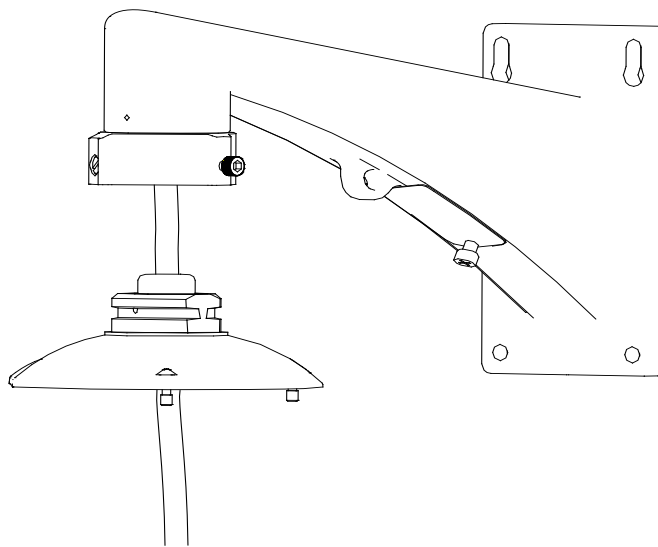
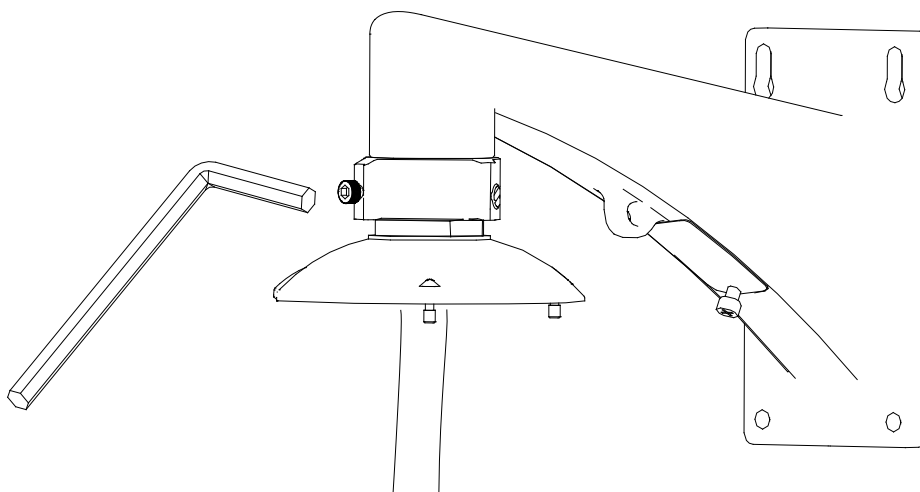
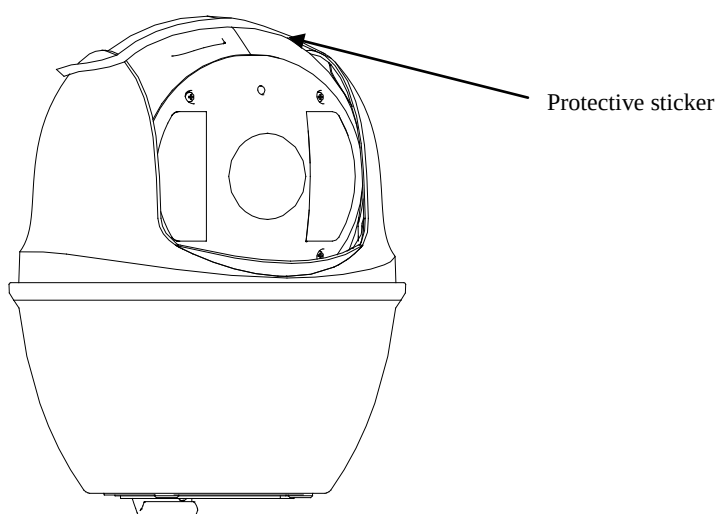

Figure 1.2.3 Install the top cover of the dome
Figure 1.2.4 Screw up the lock screws
Figure 1.2.5 Tear off the protective sticker
3. Take out the speed dome and tear off the protective sticker from it, as shown in figure 1.2.5. Configure the address, baud rate and other parameters through DIP switch SW1 and SW2 located on the bottom board of the dome, as shown in Figure 1.2.3(the bottom board of IR speed dome), Figure 1.2.4(the bottom board of network IR speed dome) and Figure 1.2.5(the bottom board of network high-definition IR speed dome). Please refer to *Section 1.4 DIP Switch Settings* for specific settings about address, baud rate, communication protocol, etc.